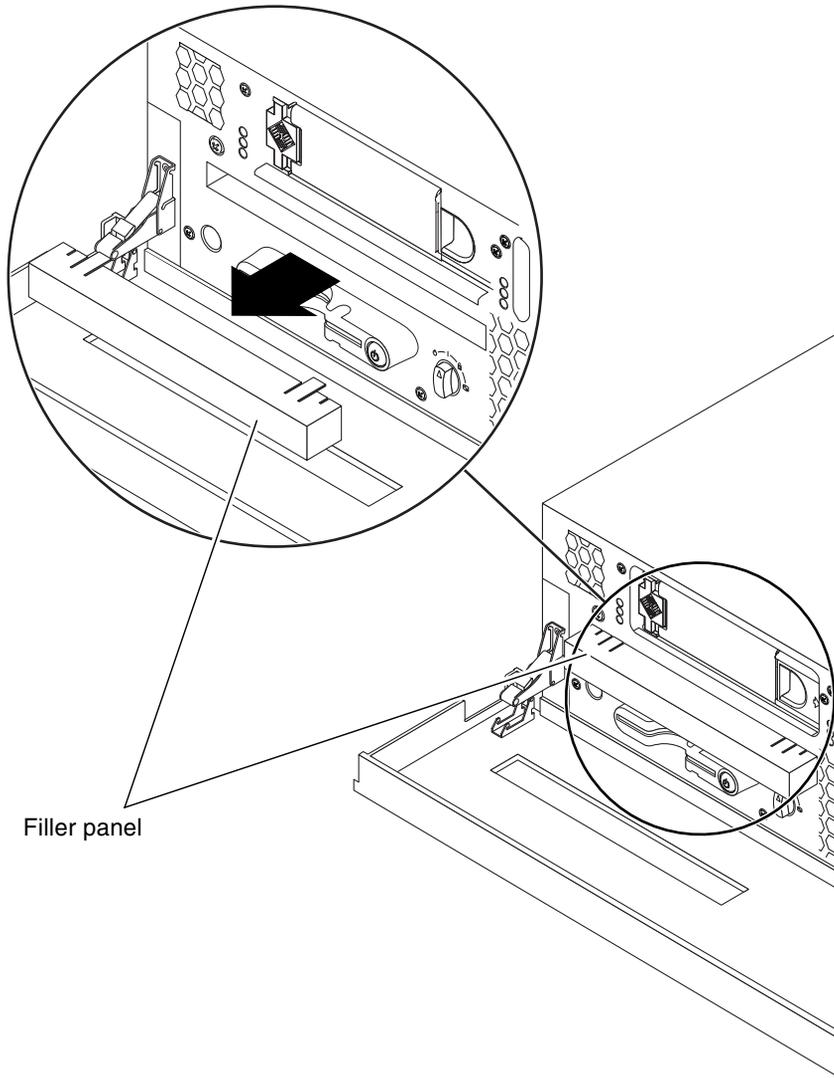

FIGURE 3-7 Location of the DVD Drive Slot With a Filler Panel
2. If a filler panel is installed, remove the filler panel from the DVD drive slot by pulling it towards you (FIGURE 3-7).